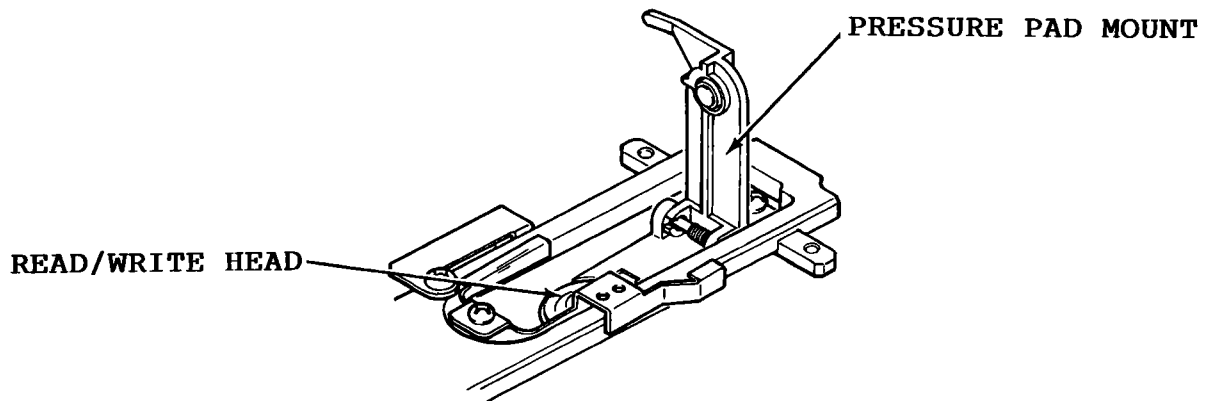

Figure 7-3. Access to read/write heads.
- Access may be gained to read/write heads by lifting pressure pad mount (Refer to Figure 7-3) from heads. Pressure pad mount can then be lifted to a vertical position with no resulting damage.